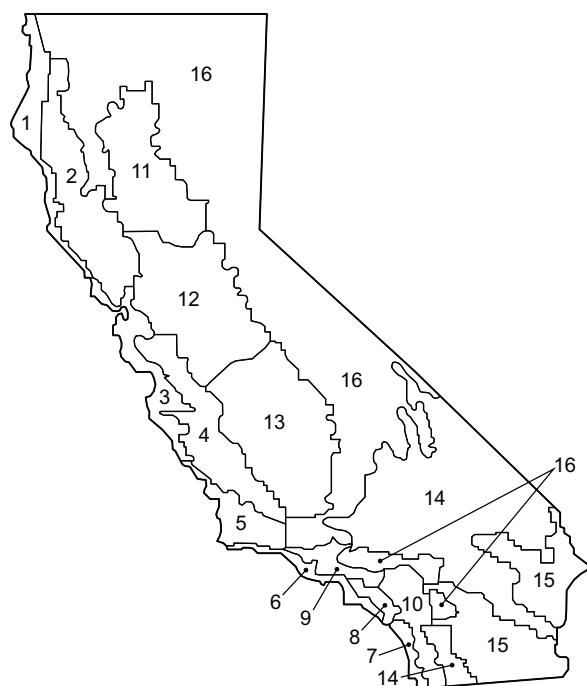

Fig. 77 — California Title 24 Zones
- Refer to Fig. 77 for map of California Title 24 zones.